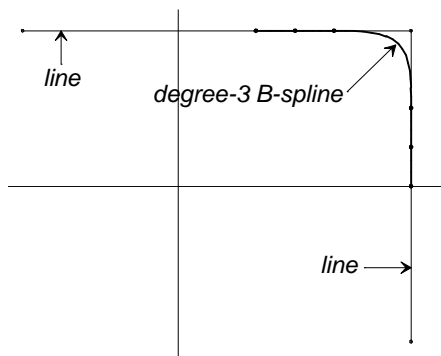

Fig. 5
- A Line and a degree-3 B-spline Curve whose ending 3 control points lie on the extension of the Line (Fig. 5).